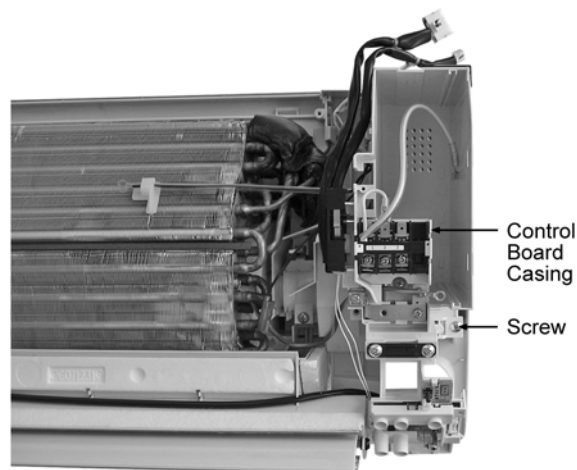

Fig. 9
15. Remove the Control Board by releasing the screw. (Fig. 9)